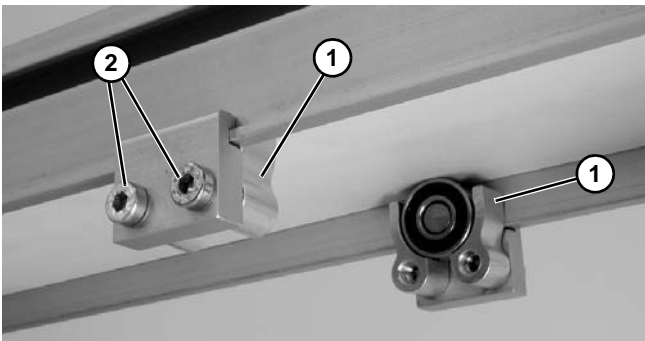

Figure 18
3. Install roller assemblies (Figure 18, item 1) as shown. Tighten screws (Figure 18, item 2) to 60 in-lb (7 Nm).